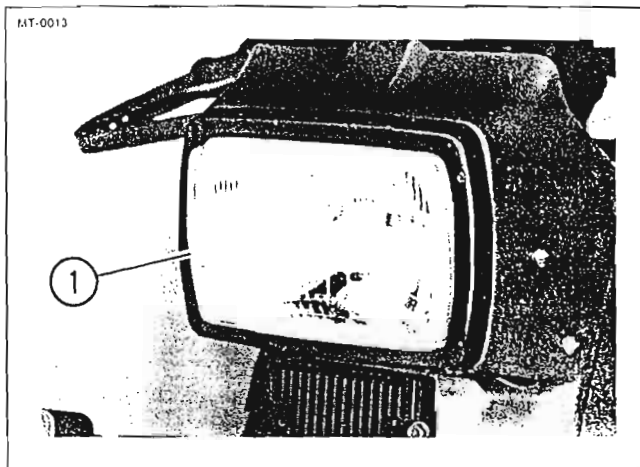

Figure 2-17. Headlamp
See Figure 2-17. With ignition switch ON, check that headlamp (1) lights. Operate LO-HI rocker switch to check that low and high beams are functional. Depress PASSING switch to check that high beam lights.